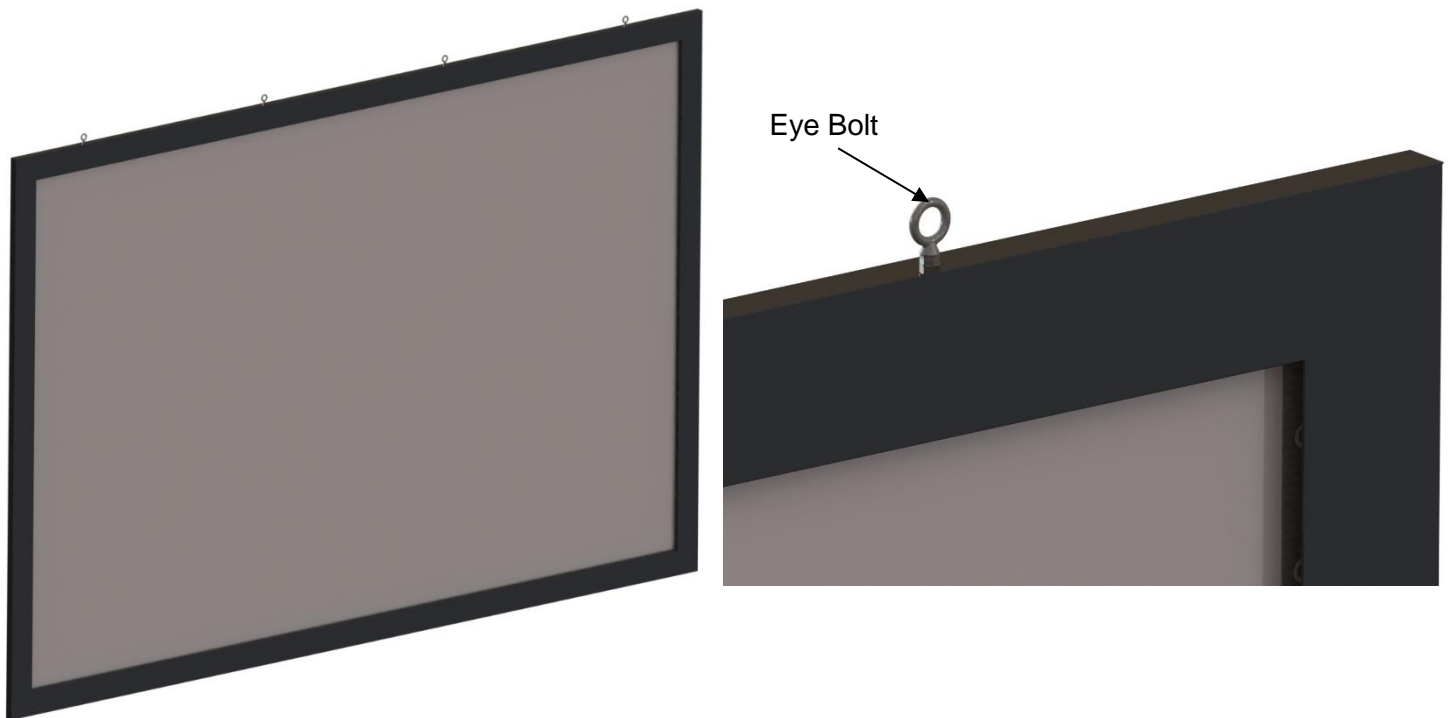

Figure 8. Eye Bolts Mounted Securely to Frame
2. Use the Eye Bolt Mount to suspend the screen. Eye bolts are already secured to the frame, making your AT 1.5 ready for installation to an appropriate surface (refer to Figure 8).